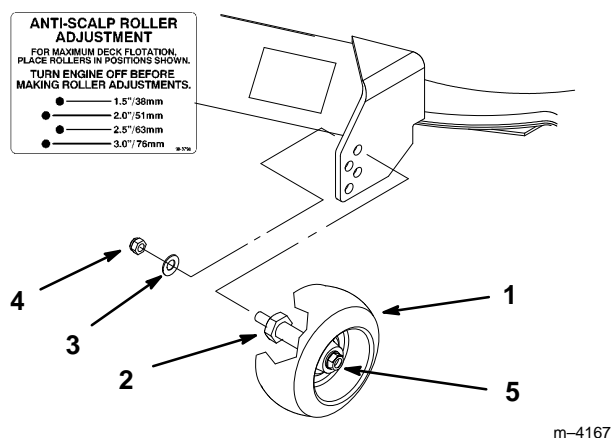

Figure 13
2. After adjusting height-of-cut remove flange nut and spring disk while holding stud with wrench (Fig. 13).
Note: Do not remove the wheel nut and washer (Fig. 13).
4. Reinstall the flange nut and spring disk (Fig. 13).